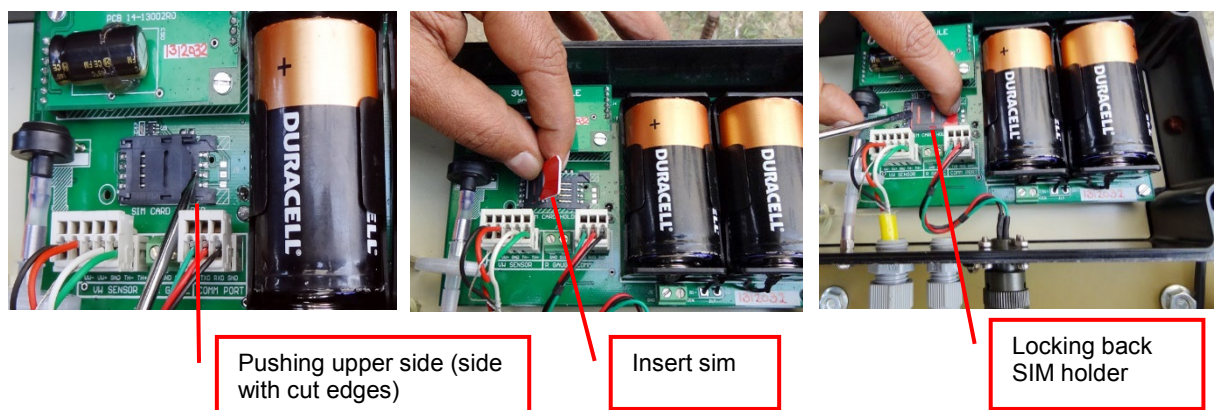

Figure 9-12: Inserting SIM
9.6.24 For mounting the datalogger, four mounting clamps are provided on the datalogger. The center to center distance of mounting holes is 90 mm (h) and 275 mm (w). Refer to figure 9-12.